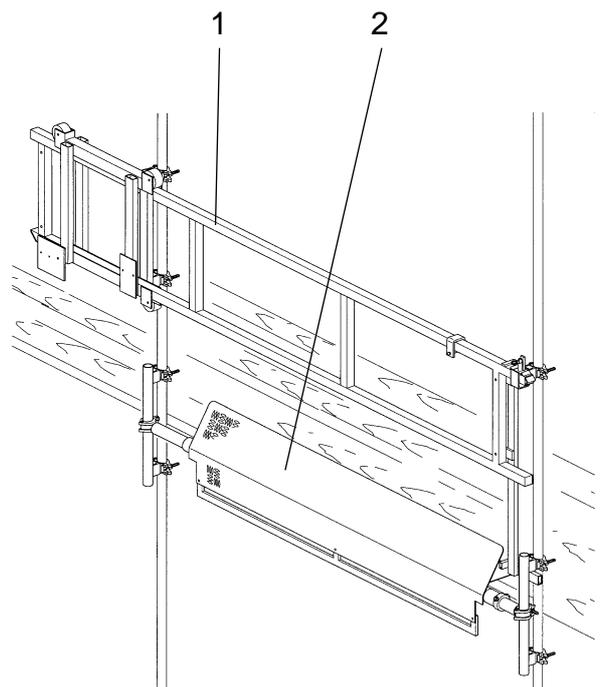

Fig.7-4 Landing barrier
- The kickboard (fig. 7-4, 2) is automatically pushed down by the loading ramp, thus mechanically releasing the landing barrier (fig. 7-4, 1).